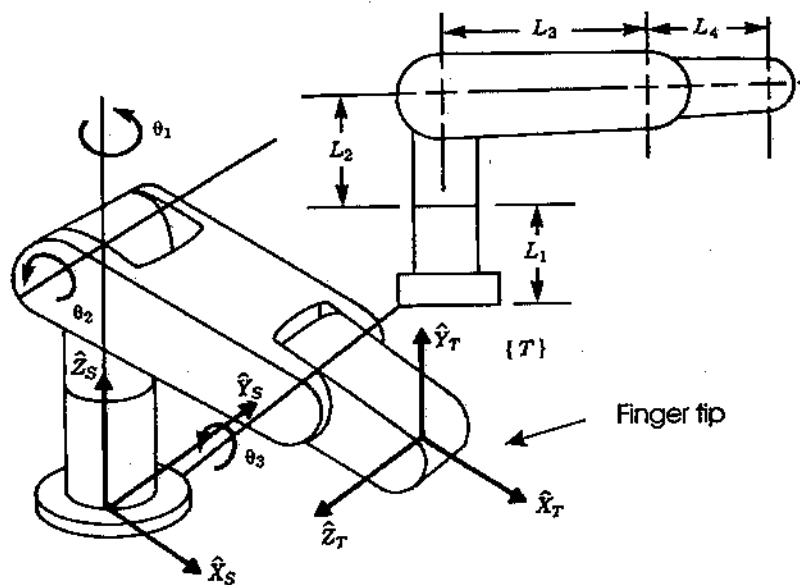

Figure 7. A 3-DOF Robot.
7. Refer to the 3-DOF manipulator shown in Figure 7, the position of the fingertip in the Cartesian Space is known, i.e., $[X_d, Y_d, Z_d]^T = [4/5, 3/5, 5/2]^T$, find the joint angles $\theta_1, \theta_2, \theta_3$. The link lengths are given as $L_1 = 1.7, L_2 = 0.8, L_3 = 2/3, L_4 = 4/3$ (20 points).